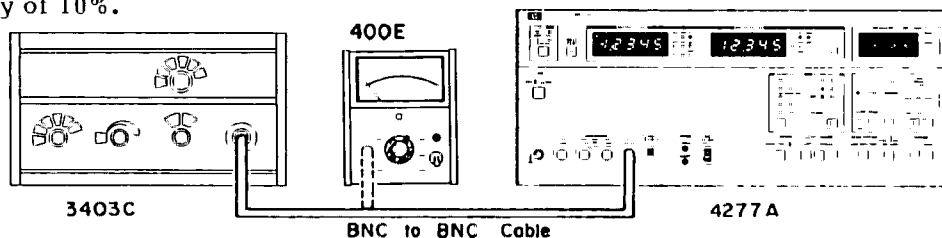

Figure 4-2. Test Signal Level Accuracy Test Setup.
1. Connect the 3403C to the 4277A UNKNOWN HCUP terminal as shown in Figure 4-2.